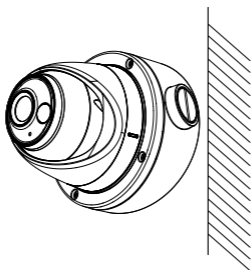

Figure 2-8 Fix the Camera to the Inclined Ceiling Mount
5. Install the inclined ceiling mount's body on the ceiling/wall with four PA4 x 25 screws, as shown in Figure 2-8.